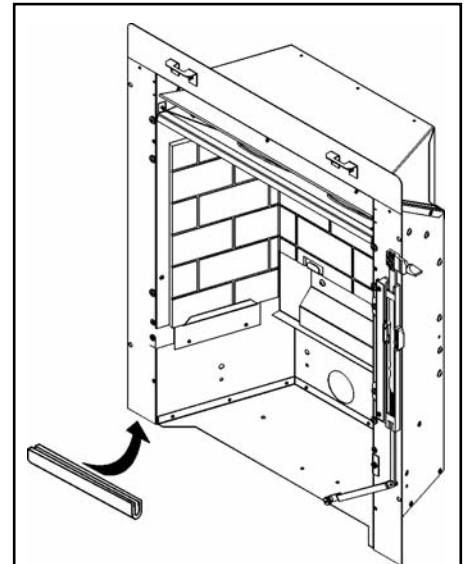

Figure 14. 'U' Seals
4. Fit the two “U” section seals to the bottom edges of the convection box side flanges (See figure 14).